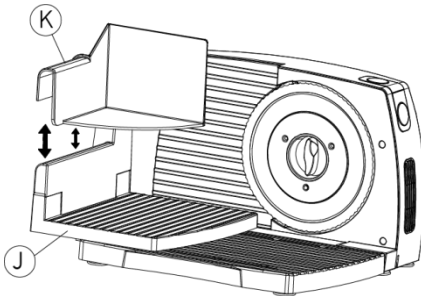

fig.3
4. Fit the protective guide onto the feed tray as shown (fig.3)